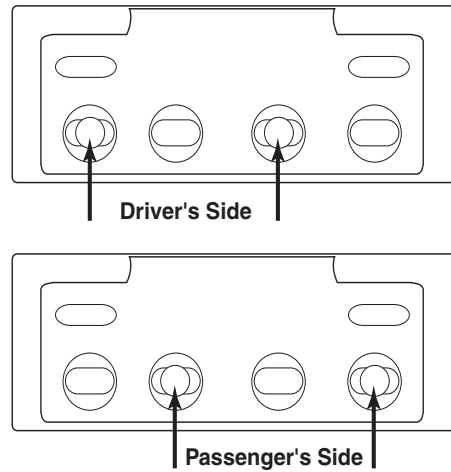

fig. 15
- Center the upper bracket, so the bolts are in the center of the slots (Fig. 15).